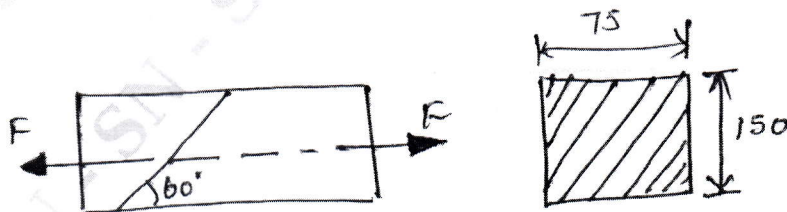

Fig.Q3(b)
- b. A Tension member is formed by connecting two wooden scartting each $75\text{mm} \times 150\text{mm}$ at their ends which are at an angle of 60° as shown in Fig.Q3(b). The member is subjected to a pull F . Find the safe value of F if the permissible normal and shear stress in the glue are 105N/mm^2 and 1N/mm^2 respectively. (10 Marks)